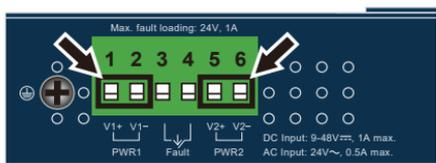

Figure 3-1: ICS-2100T/ICS-2105AT Upper Panel
1. Insert positive/negative DC power wires into **Contacts 1 and 2** for **Power 1**, or **Contacts 5 and 6** for **Power 2**. Figures 3-1 to 3-3 show PWR1 and PWR2 of the Industrial Serial Server.